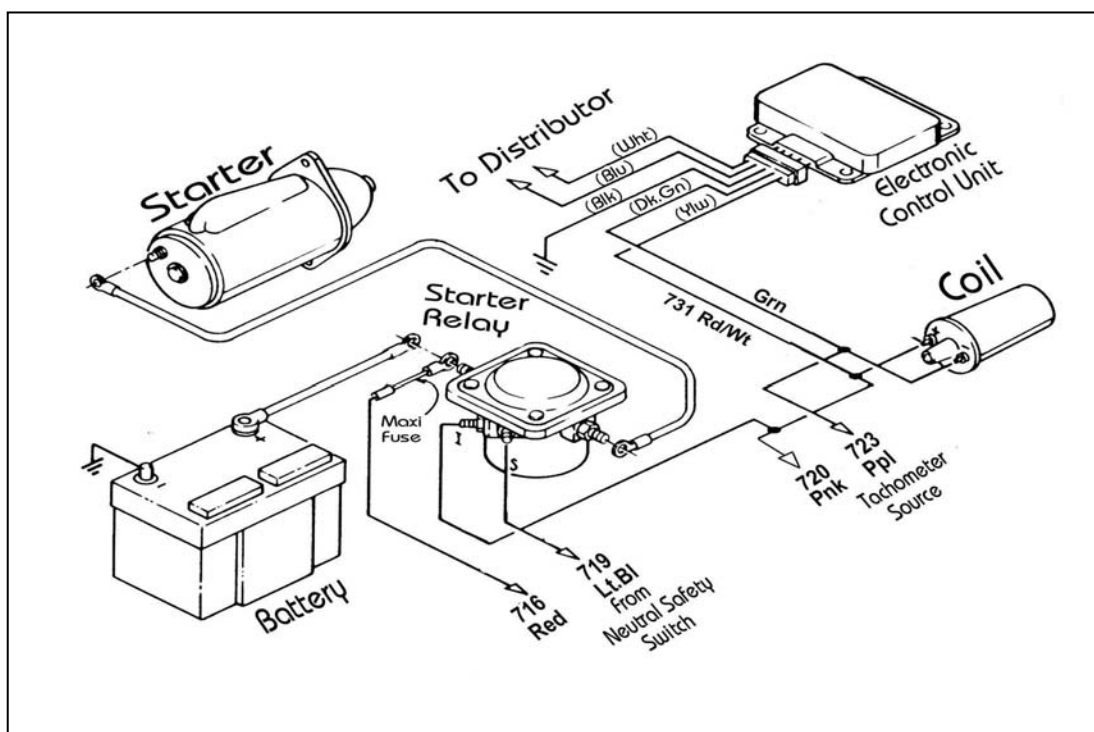

Figure 8.7 Prestolite BID Ignition (Start/Run) System
8.2.4 Prestolite BID Ignition System (1975-1977). See Figure 8.7